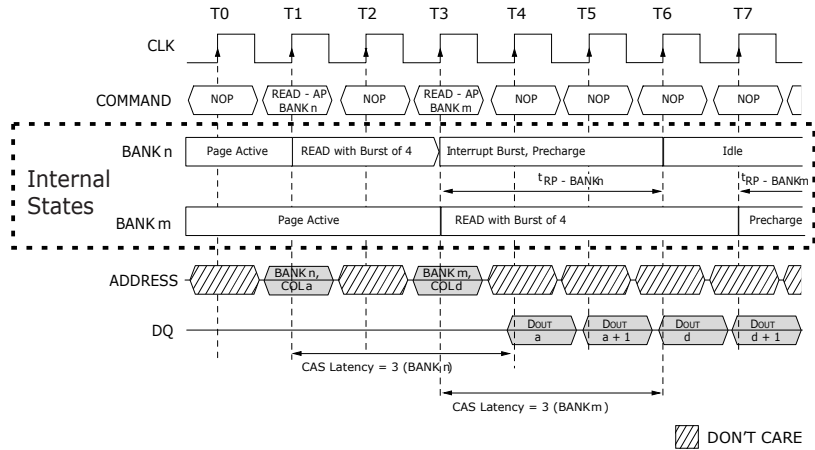

Figure 47.6. Read with Auto Precharge Interrupted by a Read
1. Interrupted by a Read (with or without auto precharge): A Read to bank m will interrupt a Read on bank n , two or three clocks later, depending on CAS latency. The precharge to bank n will begin when the Read to bank m is registered (Figure 47.6).